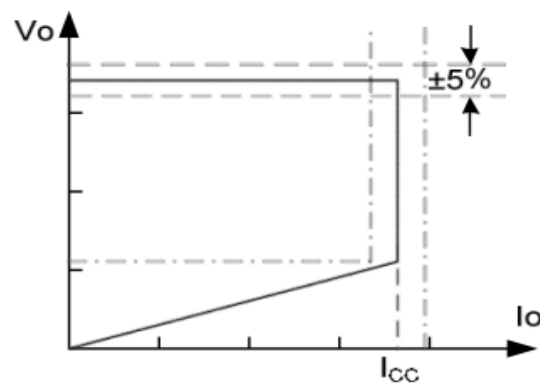

Figure 1. Typical CC/CV Curve
WT5522F is a high performance offline PSR controller for low power AC/DC charger and adapter applications. It operates in primary-side sensing and regulation. Consequently, opto-coupler and TL431 could be eliminated. Proprietary Constant Voltage (CV) and Constant Current (CC) control is integrated as shown in the figure 1 below. In CC control, the current and output power setting can be adjusted externally by the sense resistor R_s at CS pin. In CV control, PFM operations are utilized to achieve high performance and high efficiency. In addition, good load regulation is achieved by the built-in cable drop compensation. The chip consumes very low operation current (typical $300\mu\text{A}$), it can achieve less than 50mW standby power to meet strict standby power standard.
WT5522F is designed to produce good CC/CV control characteristic as shown in the Figure 1. In charger applications, a discharged battery charging starts in the CC portion of the curve until it is nearly full charged and smoothly switches to operate in CV portion of the curve. The CC portion